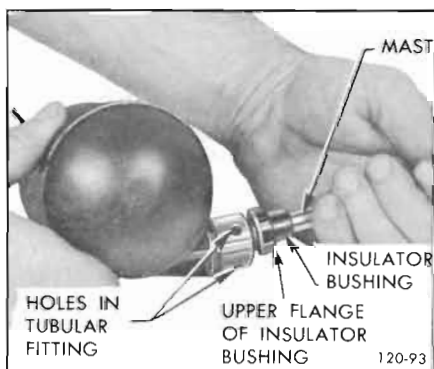

Figure 120-93—Removing or Installing Mast and Insulator Bushing
7. While still holding antenna drive in one hand, now grasp the mast with the other hand and pull with a rocking motion until the insulator bushing and mast are free from the tubular fitting of antenna drive (see Figure 120-93).